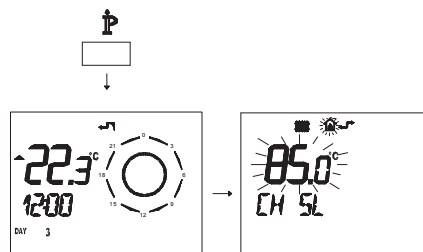

Fig. 7.22
- Press button for more than 3 seconds to enter in **INFO** (Fig. 7.22) mode.